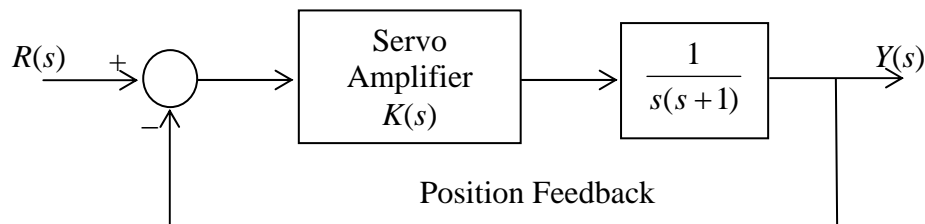

Figure 1
1. Consider Figure 1 of an automatic numerically controlled machine-tool position control system, using a punched tape reader to supply the reference signal.